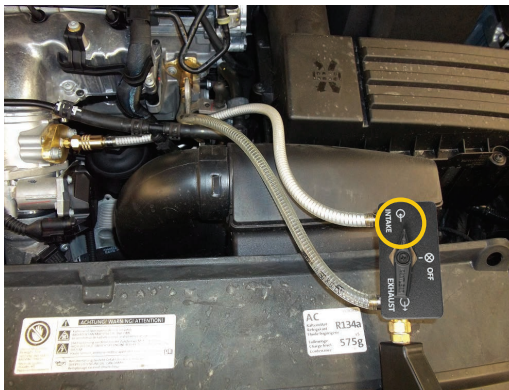

Figure 4
12. Rev the engine to 1,200 rpm as this will open the EGR valve. Turn the BG EF399 manifold to “INTAKE” (Figure 4). Open supply tool fluid valve and continue service, dispensing another ¼ of the fluid.